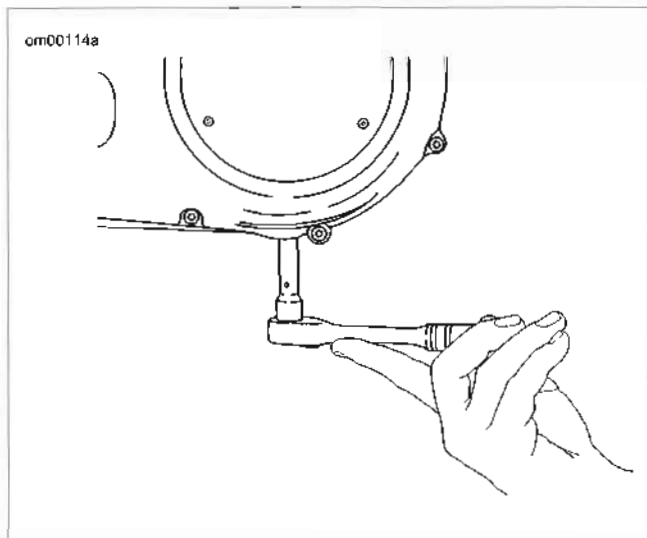

Figure 1-10. Removal/Installation of Chaincase Drain Plug
3. See Figure 1-10. Drain primary chaincase.